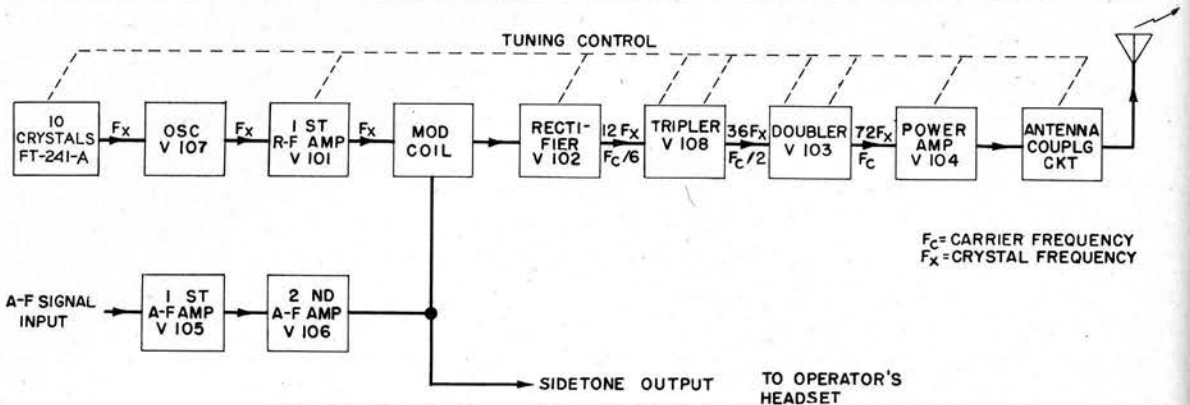

Fig. 33. Radio Transmitter BC-684-A: Block Diagram
*a. Block Diagram.* A block diagram of the transmitter is shown in Fig. 33.